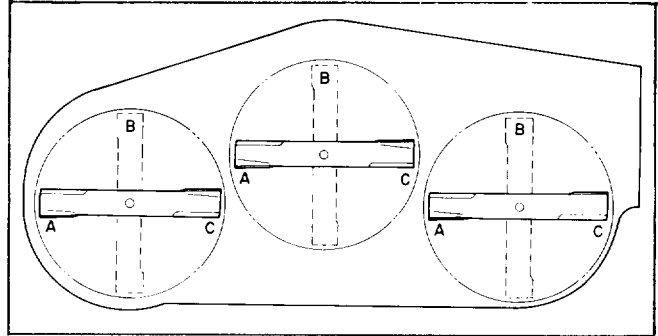
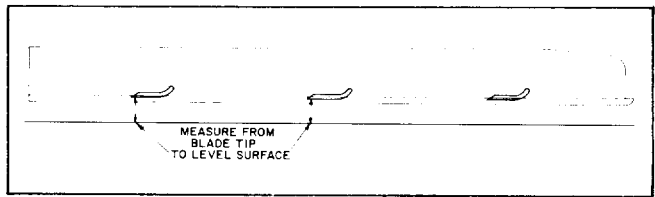

Figure 25
Figure 26
5. Position all three blades in the "A" position (Fig. 25) and measure from level surface to the bottom of the tip end of each blade (Fig. 26).
6. Note measurement attained at "A", rotate blades to "B" position (Fig. 25), measure distance of all blades to level surface and note dimensions (Fig. 26).
7. Rotate blades to "C" position, measure and note distance measured (Fig. 25, 26).
- A. Cutting units usually operated at 1 to 2 in. (25 to 51 mm) height-of-cut should have the low side of the cutting unit raised. Remove the lynch pin securing castor wheel on low end (Fig. 25) and remove castor assembly.